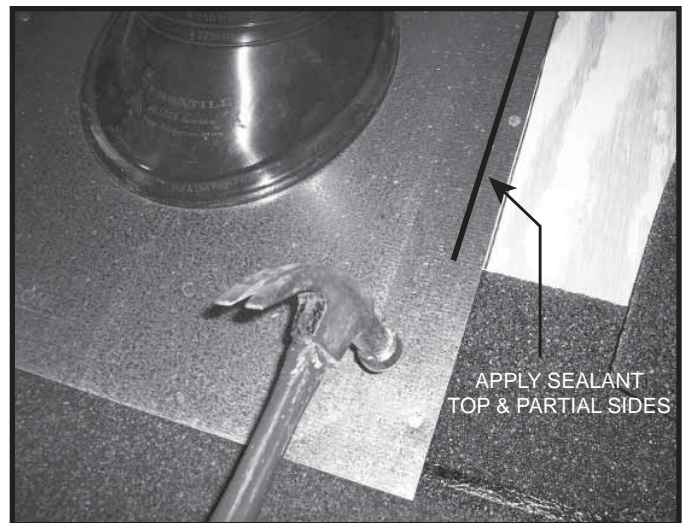
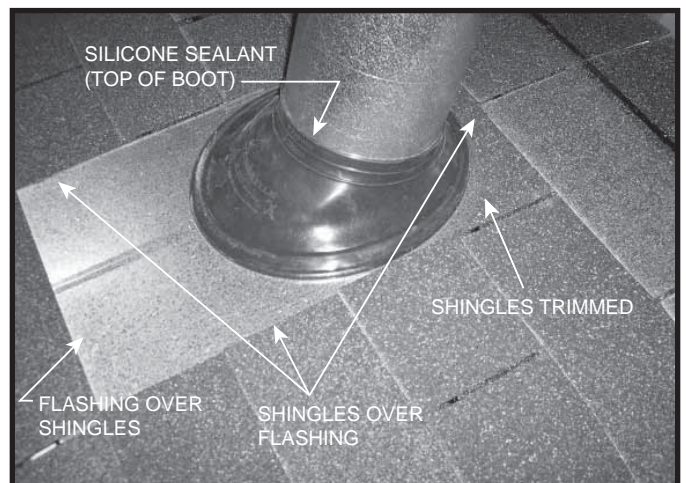

Figure 10.21 Slide Flashing Down, Secure & Apply Sealant
Figure 10.22 Installation Complete
- Apply silicone sealant on the top outside of the base plate on the sides and on top edge. See Figure 10.21. Install shingles, Apply sealant at the top edge of the rubber boot. See Figure 10.22.